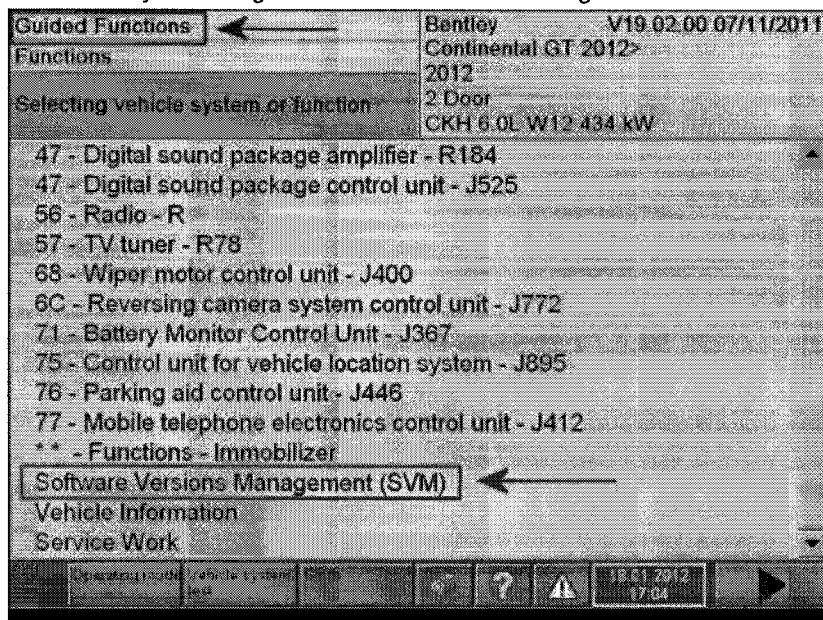

Figure 31
12. With the VAS 5052A connected to the vehicle select *Software Version Management (SVM)* within Guided Functions (see Figure 31)